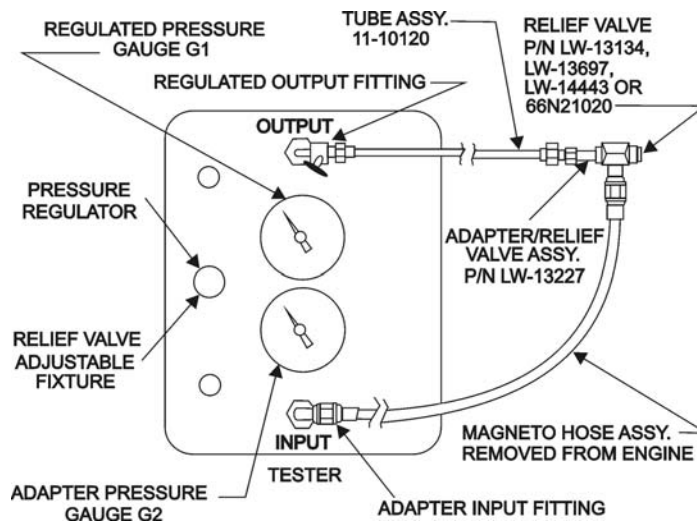

Figure 3. Connections for Relief Valve and System Check
C. Relief Valve and System Check (Figures 3 and 4):
- I C3. Model 11-10090: Connect magneto hose between outlet fitting of adapter and adapter input of tester as shown in Figure 3.